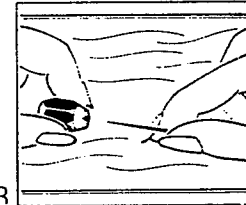
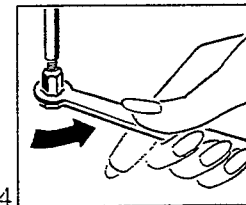

Fig. 3
Fig. 4
4. Close the boiler cap securely by screwing it clockwise (↻) (Fig. 3).
5. Place the filter (F) into the filter holder (G) and fill to the desired level with Espresso coffee. The filter is marked on the side for 2 or 4 cups. Tap lightly on the counter or table to settle and pack the coffee. Wipe the rim of the filter and filter holder to brush away any coffee grounds. This will assure a proper seating when it is put into the machine.
6. To place the filter and filter holder into the machine, grasp the handle of the filter holder and with the handle centered (See Fig. 4) raise the filter holder assembly upward into the filter holder ring, and turn the handle to the right locking the filter holder into the machine (See Fig. 5).
4. Clear any obstruction in the nozzle by carefully using a fine needle (Fig. 3).